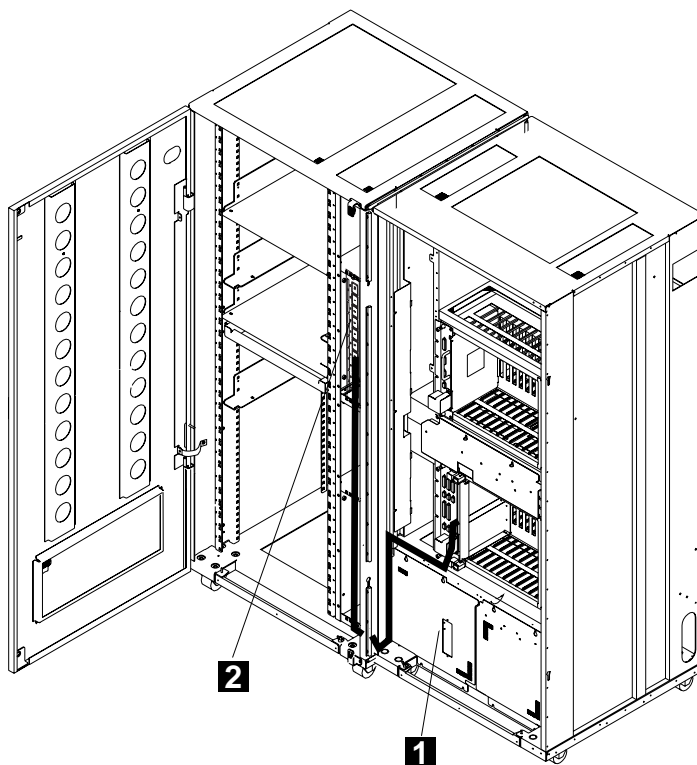
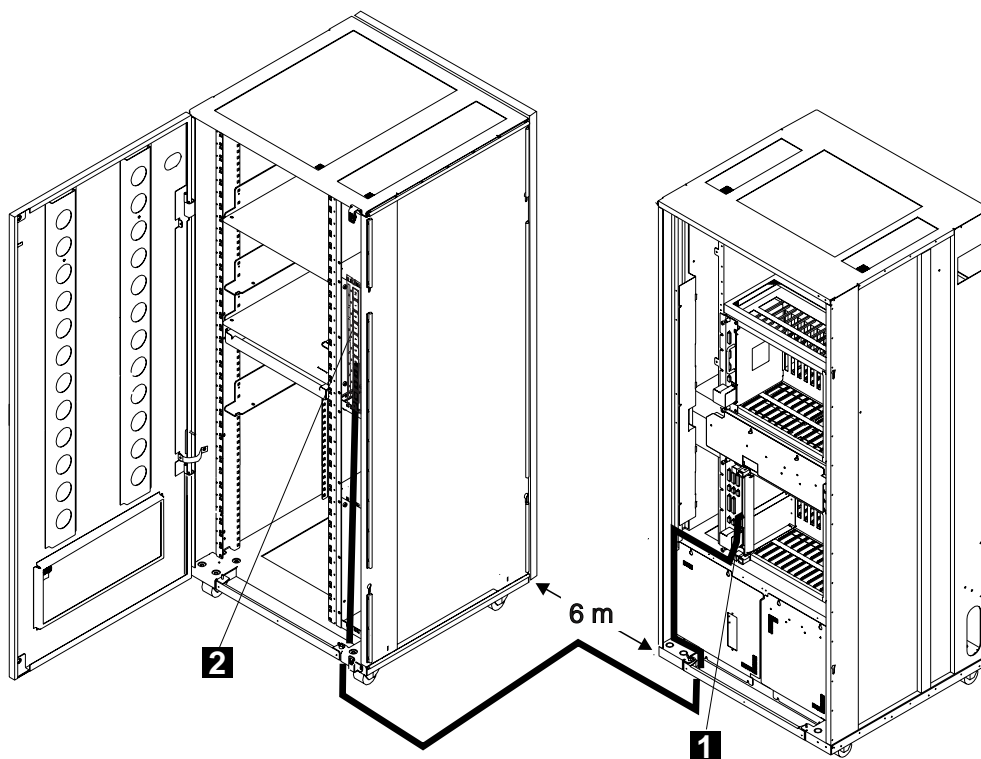

Figure 2-25. Routing the Cable from a TIC3 to a 8228 (Controller Expansion Attached)
Figure 2-26. Routing the Cable from a TIC3 to a 8228 (Controller Expansion Detached)
- b. \_\_\_\_ Route and connect the **8228** to the TIC3 using the token ring attachment cable PN 76F9441 (9 m, 27 ft). To route the cable, refer to Figure 2-25 on page 2-22 or Figure 2-26 on page 2-22.